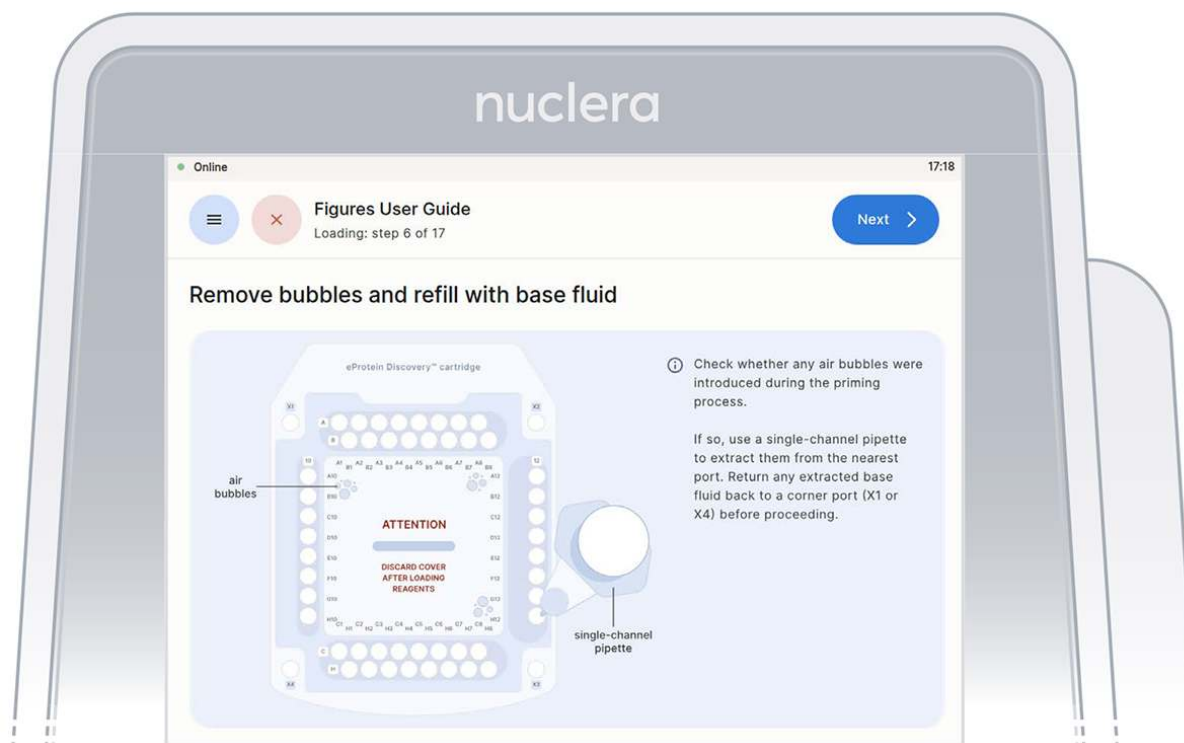

Figure 15: Connection of the pump tubes to the cartridge
3. After the base fluid has loaded, inspect the cartridge for air bubbles that may have been introduced during the priming with base fluid. If any air bubbles persist after base fluid priming, use a single-channel p200 pipette to aspirate the air bubbles from the nearest port and slowly reinject the base fluid that was aspirated into a corner port (X1 or X4). Press the **[Next]** button (Figure 15).